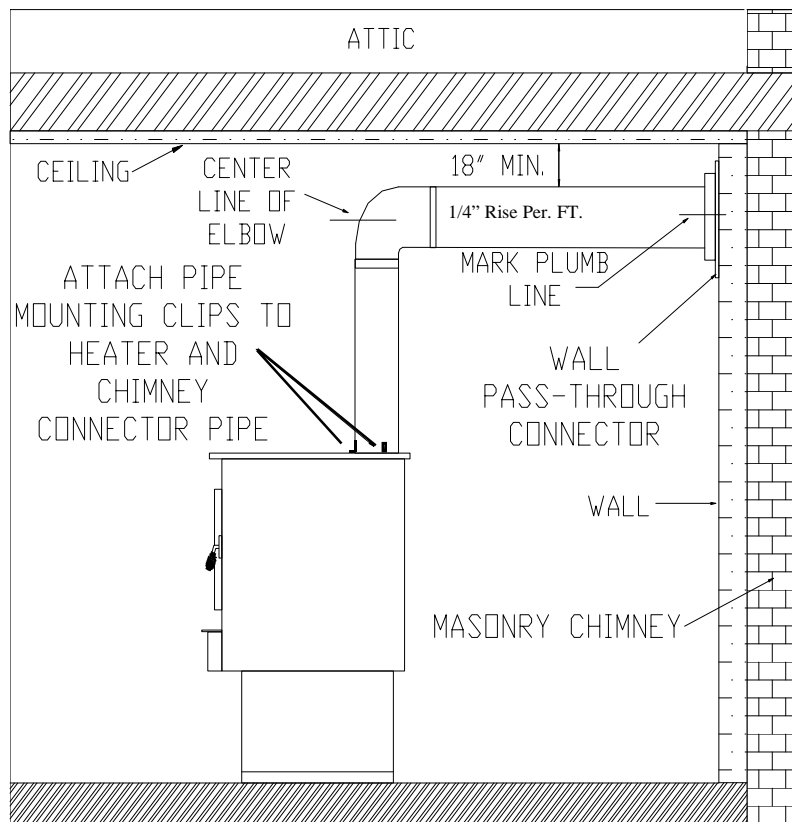

FIGURE 7
- b. Mounting clips attached to heater and chimney pipe, See Figure 7 on Page 16.
3. Measure so there will be at least 1/4" rise per foot of horizontal connector pipe, maintaining clearances to ceiling as noted in Figure 7. This will give you the center of hole for chimney penetration.
5. Connect chimney pipe to tee-box using #24 ga. minimum blued or black steel pipe. (DO NOT use galvanized pipe.) Each section should fit into section below or into opening on stove, for drip-free operation. Secure each section together by using at least three (3) sheet metal screws or rivets.